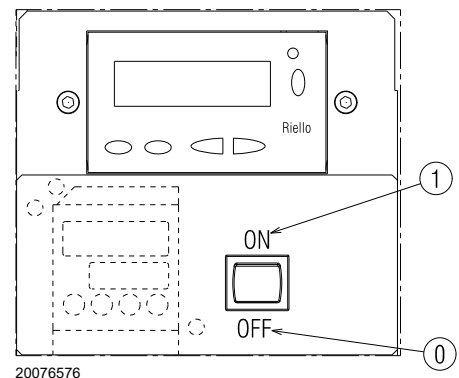

Fig. 32
Close the thermostats/pressure switches and set the switch of Fig. 32 to “1/ON”.
- put the switch of Fig. 32 to “0/OFF” and wait until the control box carries out the switching off phase;